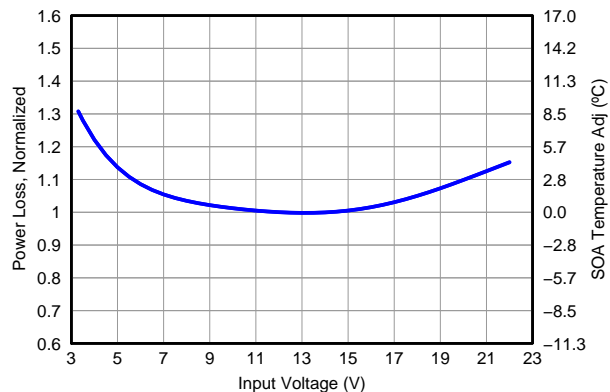

Figure 13. Normalized Power Loss vs Input Voltage
- Normalized Power Loss for input voltage ≈ 1.05 (Figure 13)
- SOA adjustment for input voltage $\approx 1.4^{\circ}C$ (Figure 13)